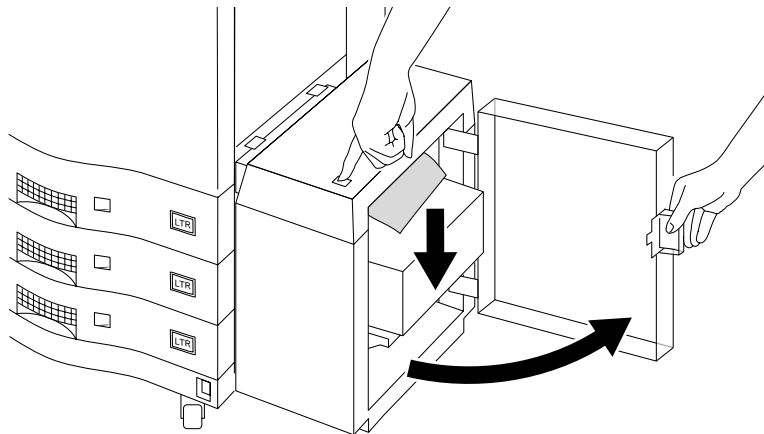

Figure 3-44 Opening the HCI door
1. If the Control Panel indicates an HCI jam 1 (a pick error), open the HCI door as shown in Figure 3-44. Press the button on top of the HCI to lower the paper stack.